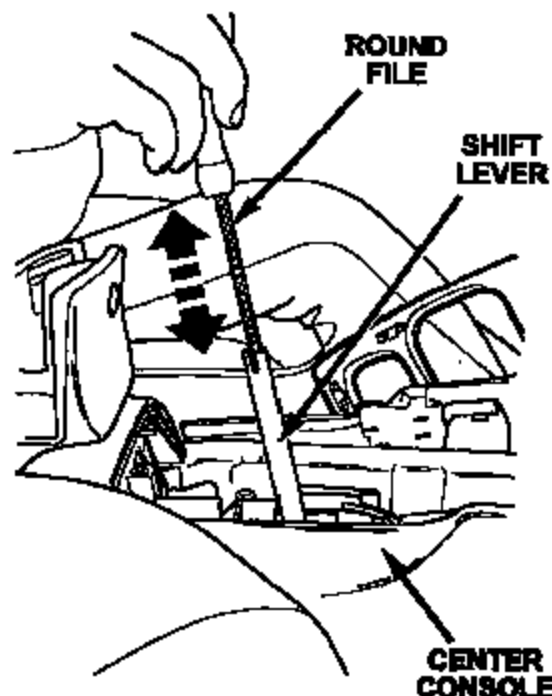

Figure 5
15. For vehicles that had the dimple drilled out, use a small round file to remove any remaining metal burrs from the inside of the shift lever at the hole drilled in Step 9 (Figure 5).